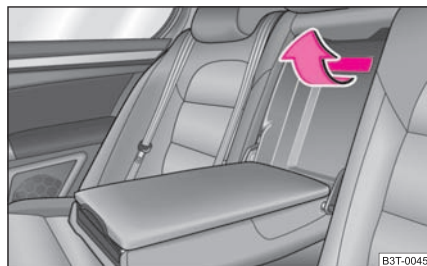

Fig. 104 Rear seats: Handle of lid
- Pull the handle up to the stop in upward direction and fold open the lid downwards ⇒ page 92, fig. 104.